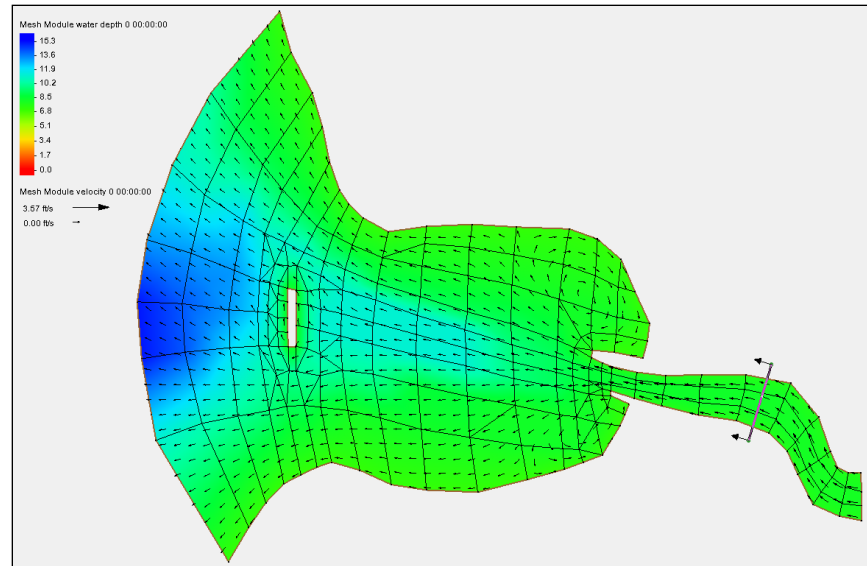

Figure 21 Observation arc across the noyo1 mesh
10. Using the **Create Feature Arc** tool, create an observation arc across the mesh (Figure 21). Draw the arc from the bottom end of the screen towards the top.